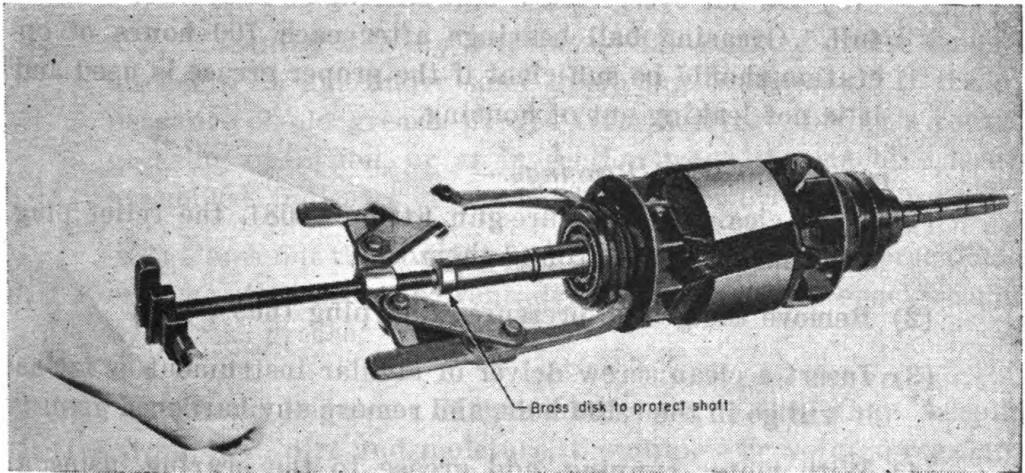

Figure 31.—Removing Ball Bearing with Typical Bearing Puller
- (1) To remove engine-end ball bearings (612).
- (b) Remove the generator end-shield holding bolts and washers (616-617), the bearing-housing cap screws and washers (614-615), and end shield (607).
- (c) Remove ball bearing (612) and inside portion of housing (613) with a bearing puller attached to the bearing housing as shown in Fig. 31. **IF A PULLER IS USED DIRECTLY ON THE BEARING AFTER REMOVING IT ENOUGH TO CLEAR THE HOUSING, IT SHOULD BE ATTACHED TO THE INNER RACE ONLY.**
- (2) To Remove Exciter End Ball Bearing (624):
- (b) Remove the complete exciter, the generator end-shield holding bolts and washers (628-629) the bearing-housing cap screws and washers (626-627) and the generator end shield (619).
- (c) Use a bearing puller attached to bearing housing cover plate (625) in the same manner as used on the engine end. **WHEN THE PULLER IS USED DIRECTLY ON THE BEARING, ATTACH IT TO THE INNER RACE ONLY.**